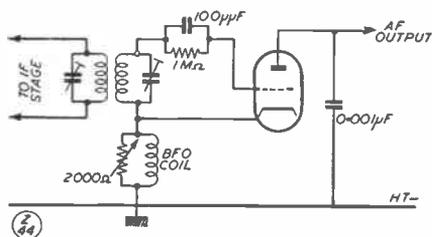

Fig. 2. A triode valve connected to operate as a detector and beat frequency oscillator stage. The variable resistor controls the oscillation.
**Fig. 2.** Physical layout for the G2IQ two-metre converter; the oscillator stage is to the right, the mixer in the centre, and the RF stage at left. Some valuable practical advice on construction is given in the article.
Some superhets employ triode detectors in the interests of simplicity and high sensitivity, especially when only a limited amount of RF or IF amplification is available. Such a valve may be brought into oscillation by using a feed-back winding on the IF transformer, exactly as reaction is obtained in a TRF receiver. A further method is to employ a cathode BFO coil, as illustrated in Fig. 2. This has the important advantage that the IF transformer may be left untouched.
be checked that the BFO can be tuned to a suitable frequency. If this is in order, the valve may not be oscillating. This can be checked by connecting a meter in the HT lead to this stage and shorting the  $25 \mu\text{F}$  condenser. No change in current shows that the valve was not oscillating, and this could be due to the tapping being too near the earthed end of the coil, or by the direction of winding having been reversed when replacing the turns. Any coil which can be tuned to approximately the IF frequency is suitable. For the circuit in Fig. 2, with 465 kc transformers a coil can be made by winding 70 turns of 28 SWG wire on a  $\frac{1}{4}$  in. dia. former.